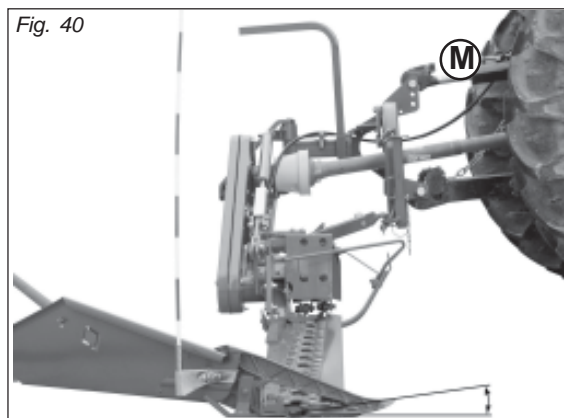

Fig. 40
- Adjust inclination of the cutting arm teeth using tie rod (M, Fig. 40).